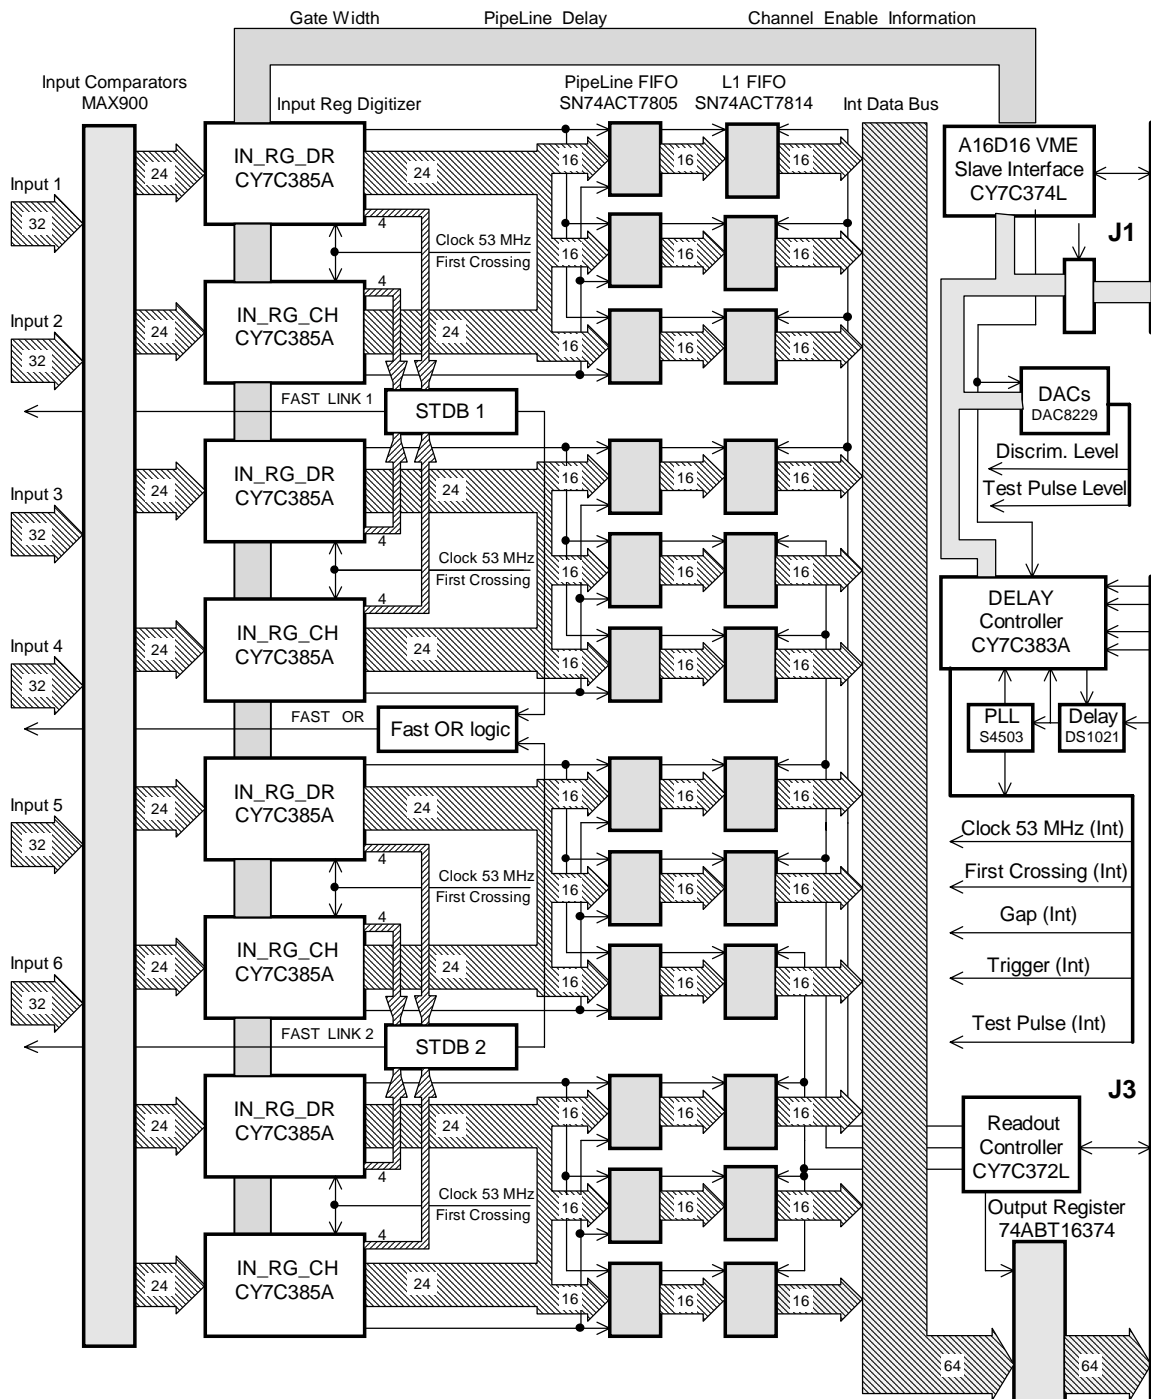

Fig. 2 MDC block diagram
The MDC module is designed to run synchronously with accelerator RF clock frequency of 53.104 MHz. The MDRC receives encoded timing signals from the Geographic Sector (GS), decodes it, and fanouts to the MDCs. Timing signals include RF, First Crossing (FC) and Synchro Gap (SGap). The FC signal marks a bunch crossing in the detector as a relative bunch crossing number one, while SGap controls the transmission of data to the L1 trigger. In fact, the MDRC drives the MDC with a RF/7 reference frequency and the MDC recovers the RF clock of 53.104MHz using the AMCC S4503 Clock Synthesizer circuit. All the rest of the necessary control signals are generated locally, Fig. 2.